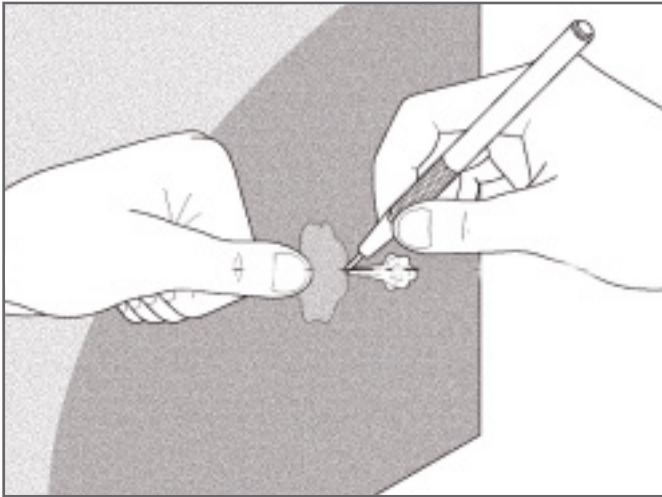

Fig 4: Removing bubbles from the film
- a. Use your thumb to carefully push the trapped air or wetting water toward the puncture. See Figure 4.